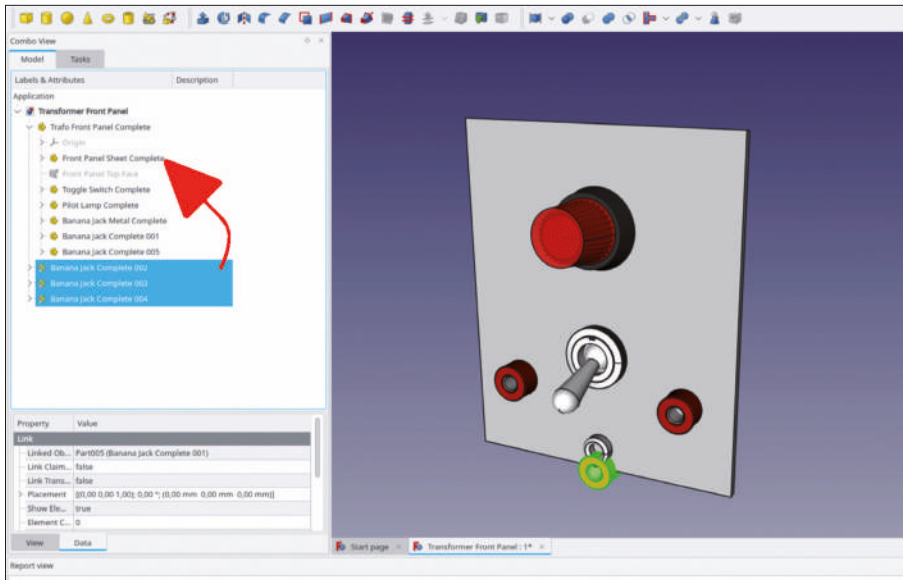

Figure 9-17
7. Create three more links of 'Banana Jack Complete 001' (Figure 9-17). Drag-and-drop the three new objects into the Std-Part-Container 'Trafo Front Panel Complete'.